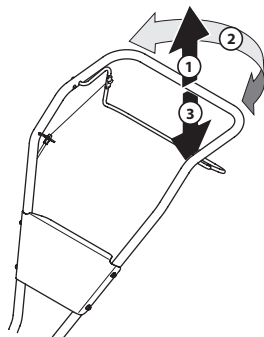

Figure 17
1. To begin a turn, lift the handlebars until the tines are out of the ground and the engine and tines are balanced over the wheels. See Figure 17.
2. With the tiller balanced, push sideways on the handlebar to steer in the direction of the turn. See Figure 17.
3. After turning, slowly lower the tines into the soil to resume tilling. See Figure 17.